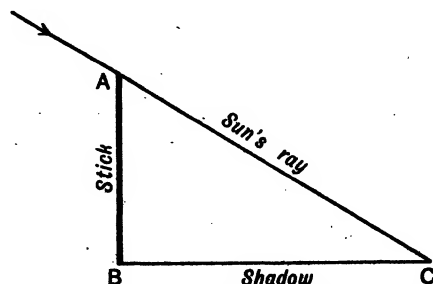

FIG. 68. USE OF A SHADOW TO MEASURE HEIGHT
**IV. Use of sun shadows for measurement of heights.**—This work is best suited to older children. It is introduced by having a number of vertical sticks whose shadows can be marked on the ground or on a plane table, Fig. 68. The end of the shadow is marked at a definite time for all the sticks and the lengths of the sticks and shadows recorded. The children can work in groups of three or four. It is usually possible to provide sticks or uprights for the whole class. The sticks should be of various lengths, so that each group of children makes its own size of triangle.